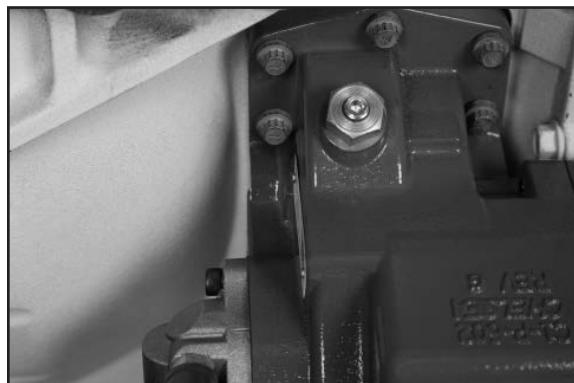

Figure 22
7. Install the remaining cap screws. Torque all to 40-50 lb-ft [54-68 N-m] (Fig. 22).